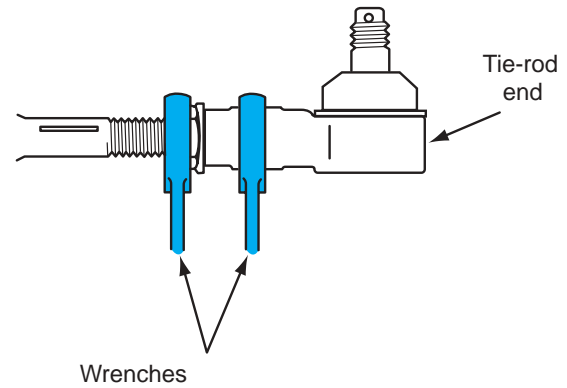

Figure 13-9 Loosening the tie-rod end locknut.
2. Hold the tie-rod end with a wrench and loosen the locknut (Figure 13-9).